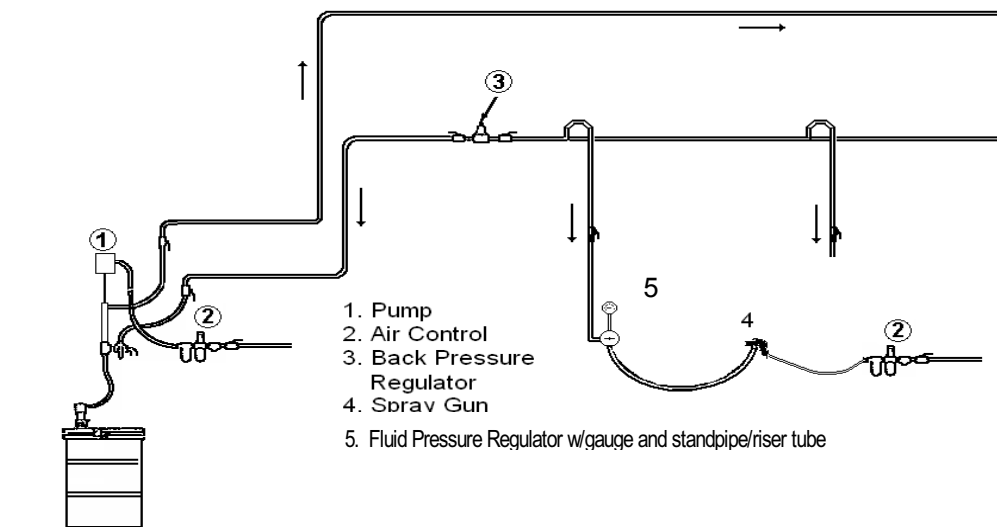

Figure 1 – Circulating System
Referring to figure 1, imagine the back pressure regulator (3) removed from the system and the piping is straight through back to the pump.